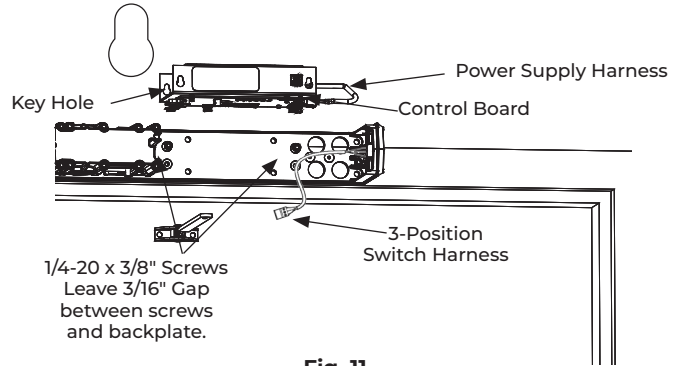

Fig. 11
1. Insert two (2) 1/4-20 x 3/8" screws as shown, leaving an approximate 3/16" gap between the head of the screws and backplate. (Fig. 11)
2. Slide the power supply key holes over screws allowing narrow slots of key holes to rest on the screws. (Fig. 11)